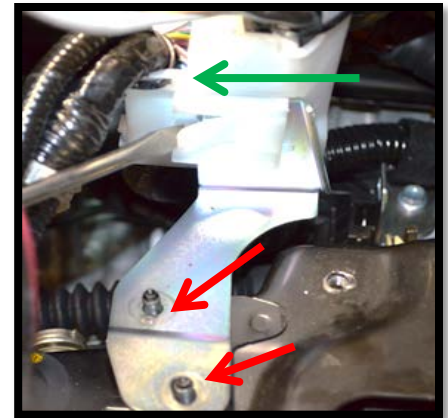

Figure 2a
- a) Remove the ECU wiring harness bracket. Use a flat head screwdriver to pry the locking tab up, and pull the harness towards the front of the car. (Green Arrow in Figure 2a) Then remove the two 10mm nuts holding the bracket and remove it. Nuts shown removed. (Red Arrows in Figure 2a)